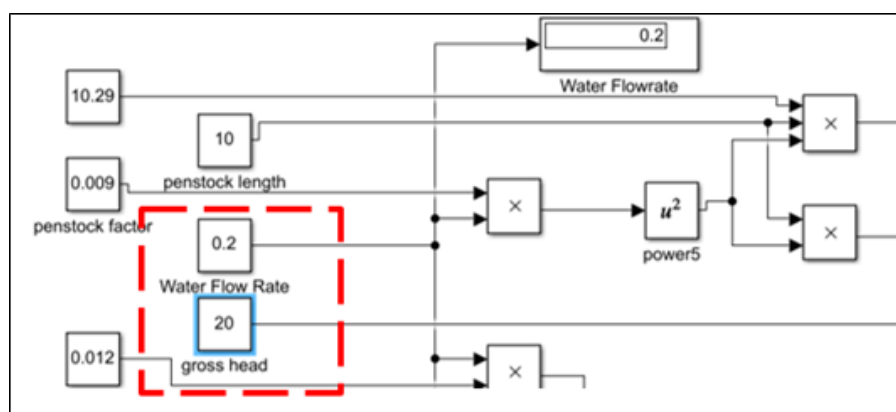

Figure 5.4 : Water flow rate and gross head setting [3]
3. Double click the box of water flow rate and gross head to set the values $0.2 \text{ m}^3/\text{s}$ and 20m as shown in Figure 5.4.